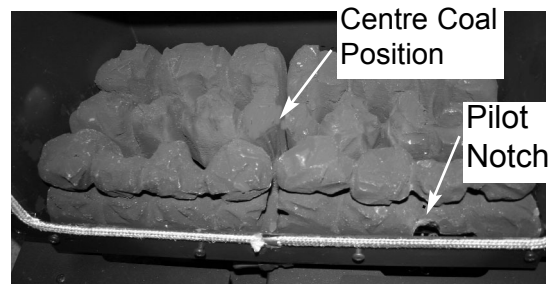

Fig. 10a
2) Next position the 2x smaller base matrices between the rear matrices and the front of the fire-box. These matrices are labelled, LF (left front) & RF (right front). The RF matrix has a notch in the front to avoid the pilot assembly. The arrangement should look like Fig 10a.
3) Now position one of the loose coals into the centre of the stove ensuring that it is placed into the centre cutout and when in position, this coal will be resting upon the four corners of the base matrices. See Fig. 10a & b.